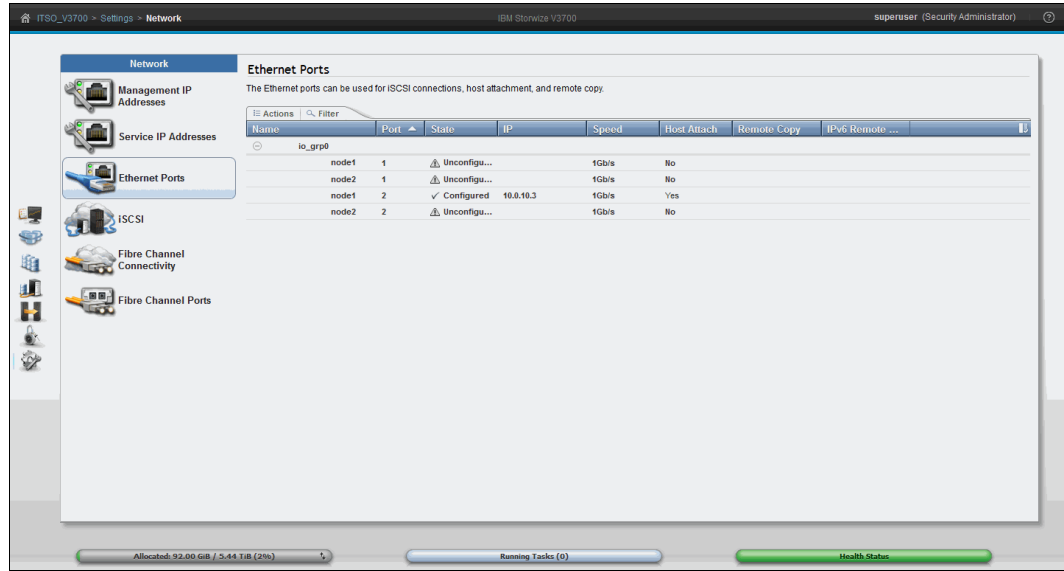

Figure 4-51 Showing configured port
6. The port should now be listed as Configured, as shown in Figure 4-51.